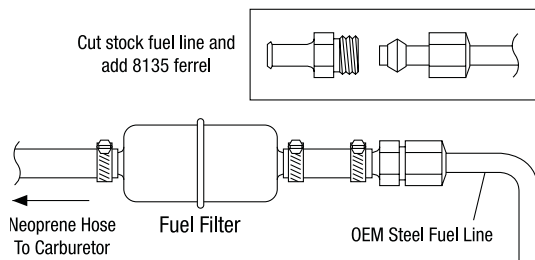

Fig. 3 - Fuel Line Kit #8135 Installed on Stock Steel Line
2. **The stock steel fuel line must be converted** to fuel resistant rubber hose. The stock steel line will not connect to the Performer Series Carburetor. Use Edelbrock Universal Fuel Line Kit #8135. This kit contains a filter, neoprene hose, and fittings to adapt to 5/16” or 3/8” stock steel fuel lines (See Fig. 3).